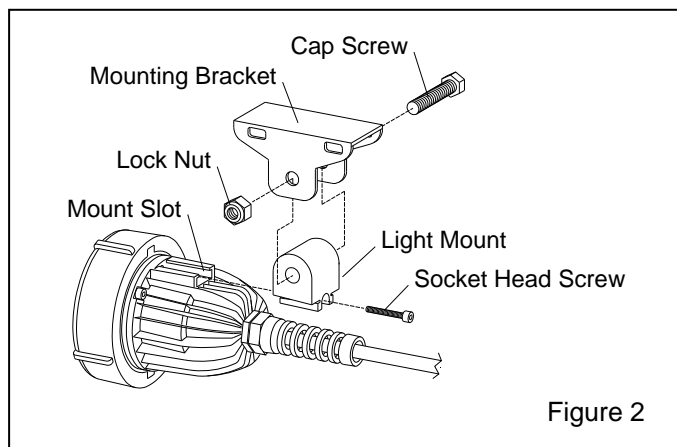

Figure 2
2.1 Assemble Mount to Light Assembly Refer to Figure 2
NOTE: The lens housing must be removed to access any serviceable items within the light assembly. Service is easier if the light assembly is removed from the blast hose, one suggestion is to remove the cap screw and lock nut from the mounting bracket as shown in Figure 2.